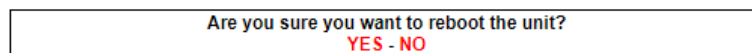

Figure 65. Configurator GUI (unit reboot dialog)
- The unit reboot dialog will be shown (Figure 65 \(page 142\)).